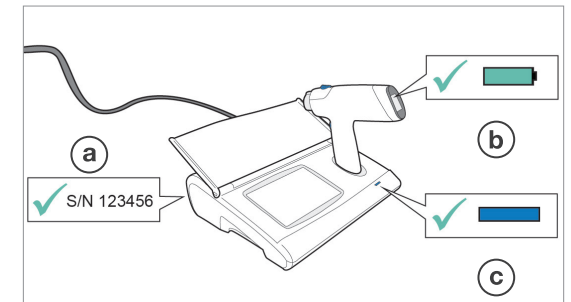

Figure 24 Base Station and Handset Checks
1. **Verify that the Base Station and Handset have been set up and powered according to Section 2 (see Figure 24).**